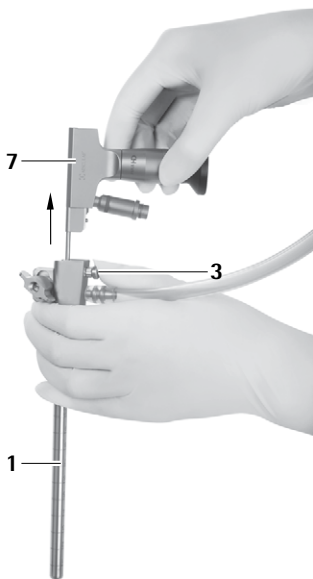

Fig. 11
- Press the release button **3** and remove the endoscope **5** from the MINOP InVent trocar **1**, see Fig. 11.